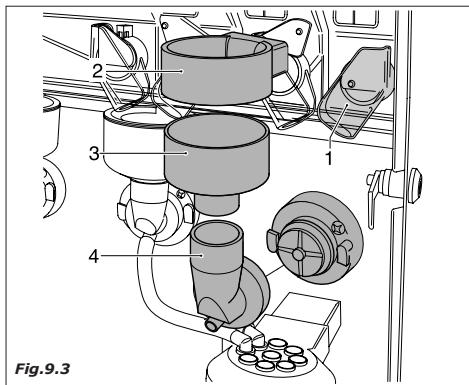

Fig.9.3
- funnels and powder chutes (Fig. 9.3-pos.1)
- water funnel (2), mixing bowls (3) whipper assembly (4)